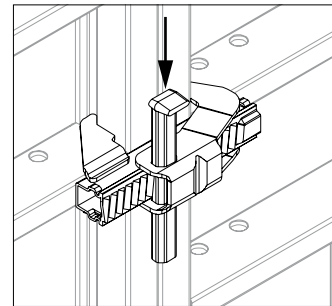

Fig. A4.01c
5. Hammer in wedge tightly. (Fig. A4.01c)